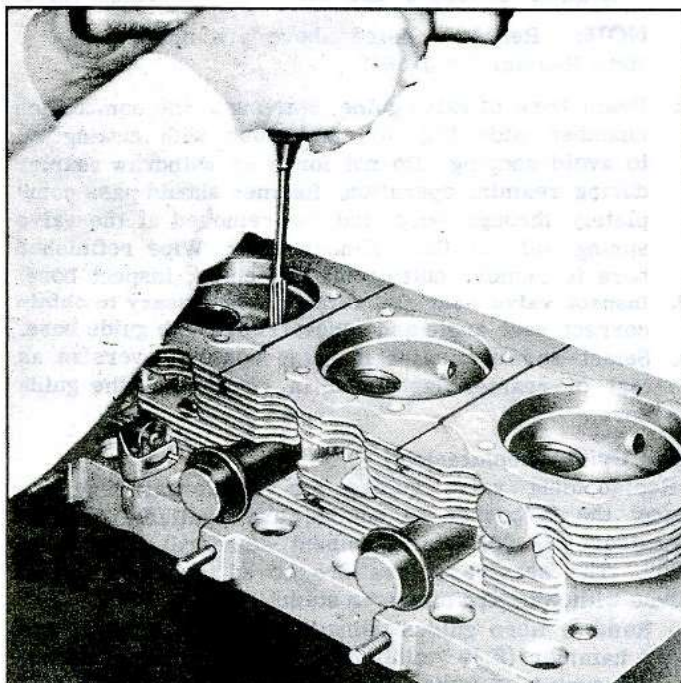

Fig. 89—Reaming Valve Guide Bore
4. If some damage in bore is evident, ream bore with .010" oversize (J-21282) Hand Reamer starting at the combustion chamber side and flushing with cutting oil to avoid scoring (fig. 89). Do not force